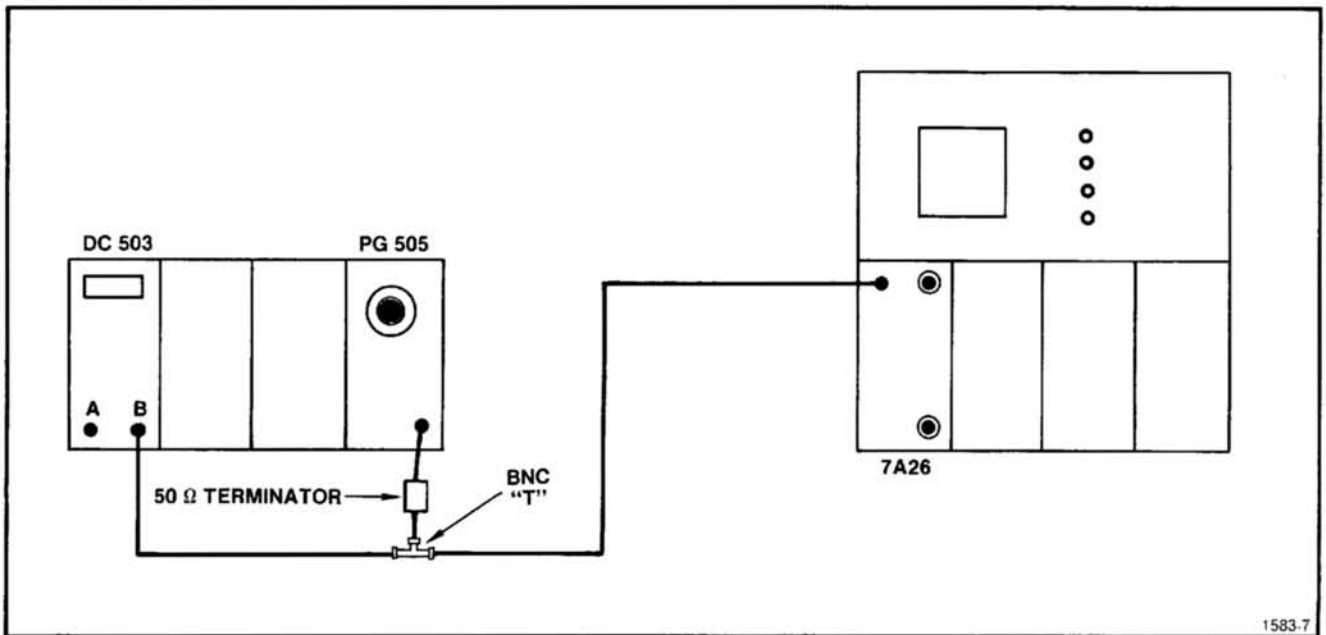

Fig. 4-2. Pulse Period and Duration Check.
b. Connect the equipment as shown in Fig. 4-2. Set the DC 503A to measure period B.
- b. Connect the equipment as shown in Fig. 4-2. Set the DC 503 to measure Period. Use the settings in the second line of the table in the preceding step.